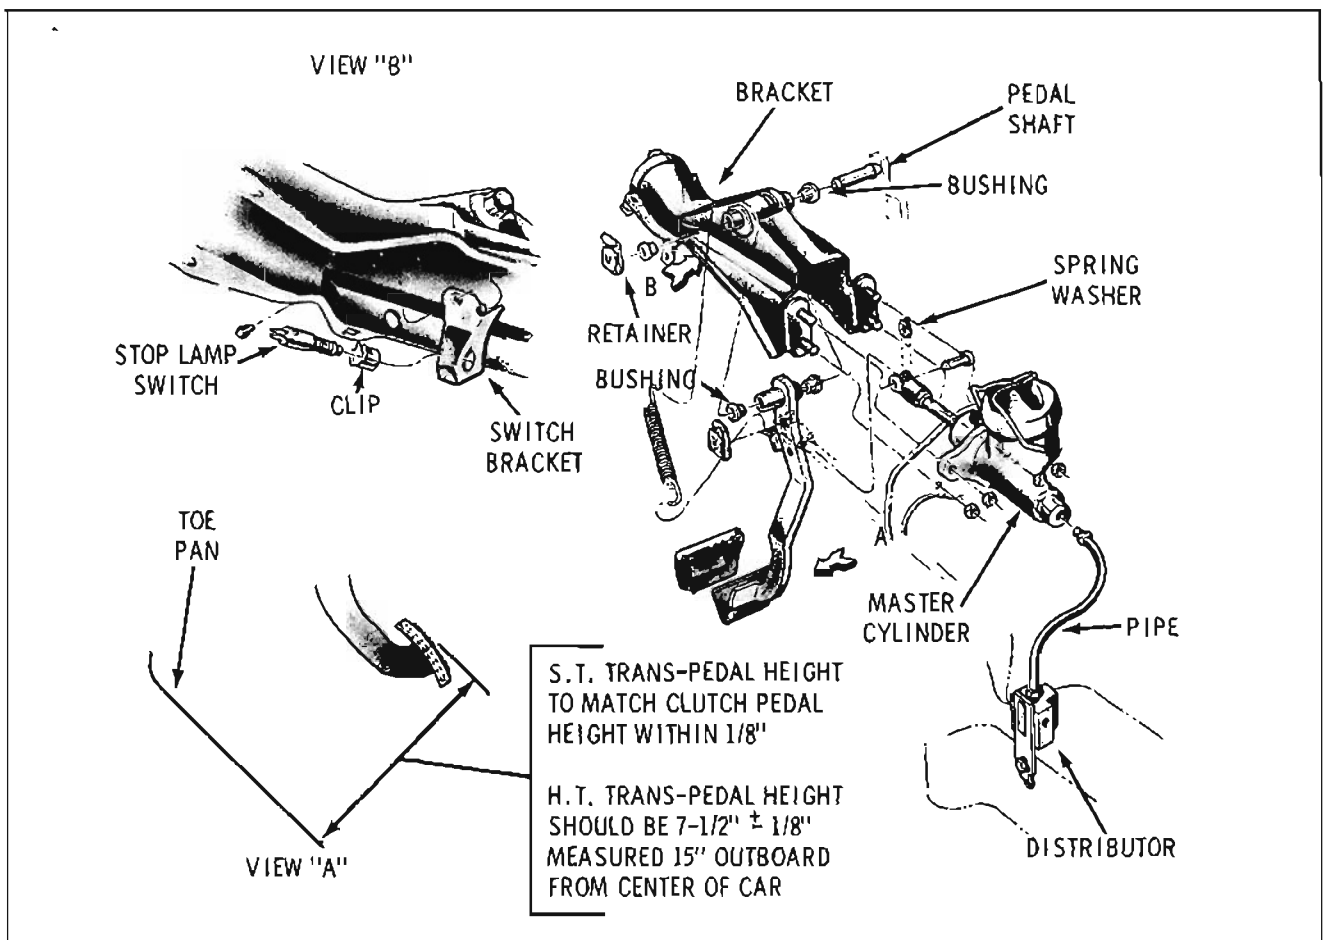

Fig. 11-7 Brake Pedal Adjustment (30, 31 & 32 Series)
1. Turn back floor mat and check pedal height (from floor pan to the top of the pedal pad at the center). Dimension should be $7\frac{1}{2}'' \pm \frac{1}{8}''$. (Fig. 11-7)
The brake pedal is suspended from a mounting bracket under the instrument panel. Nylon bushings between the pivot bolt and the pedal eliminates periodic lubrication. The pedal is connected to the master cylinder push rod by a clevis. The brake pedal or bracket can be removed as shown in Figs. 11-7 and 11-9.